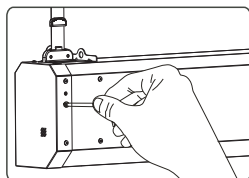

Figure 29
- b.Lower limitation adjusting. Take off the knob from the hole and use the provided allen key to adjust (figure 29). A clockwise adjustment will extend the screen (The distance between the screen and installation position will increase) and a counter-clockwise adjustment will retract the screen (The distance between the screen and installation position will decrease).